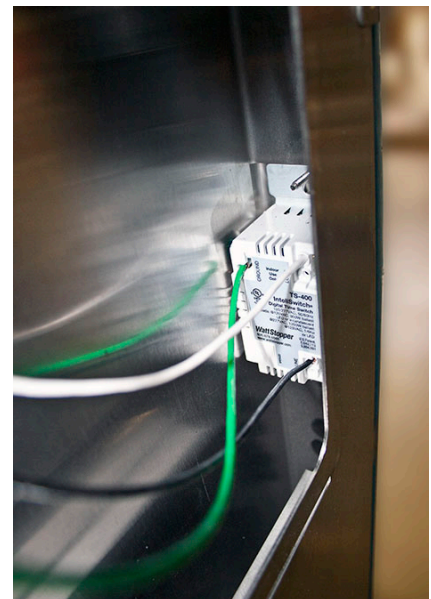

Fig. 8: Re-insert Switch into its original position
2. When finished adjusting the switch, place it back into the recessed area (Fig. 8). Make sure its wires were not accidentally disconnected. Align its bolt holes with the holes on the cabinet front. Insert the bolts through the cabinet front to secure the switch.